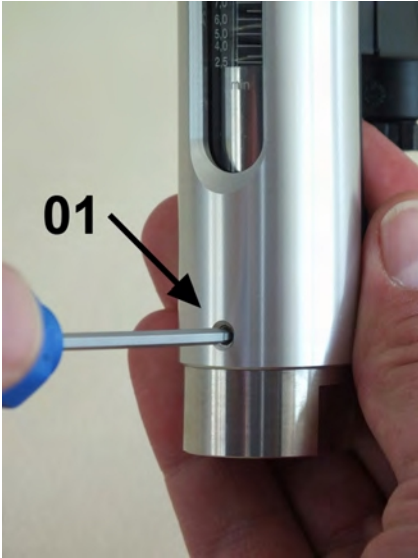

Fig. 36: Loosen screws
- 3.** ➤ Secure the device with one hand to ensure the sight glass does not slip out. With the other hand, loosen the lower 3 hex head screws (Fig. 36/01).